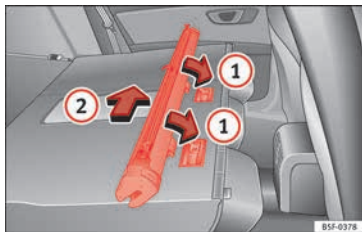

Fig. 167 Assembling the net partition in the rear seat backrests.
- Place the net casing in the rail slots in the direction of the arrows » **Fig. 167 ①**.
- Push the casing towards the left side of the vehicle in the direction of arrow » **Fig. 167 ②** and as far as it will go.
- Pull the net casing out approximately 5 cm in the opposite direction to the arrow » **Fig. 167 ②**.
- Remove the casing from the rails by pulling in the opposite direction to the arrows » **Fig. 167 ①**.